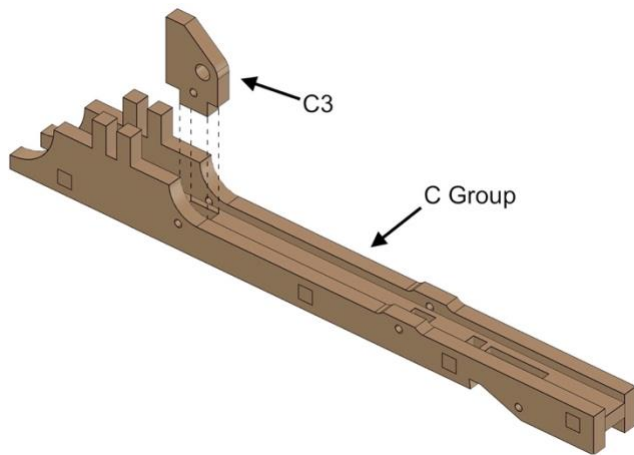

Fig. 5
- Align parts exactly as shown in *Fig. 5*.